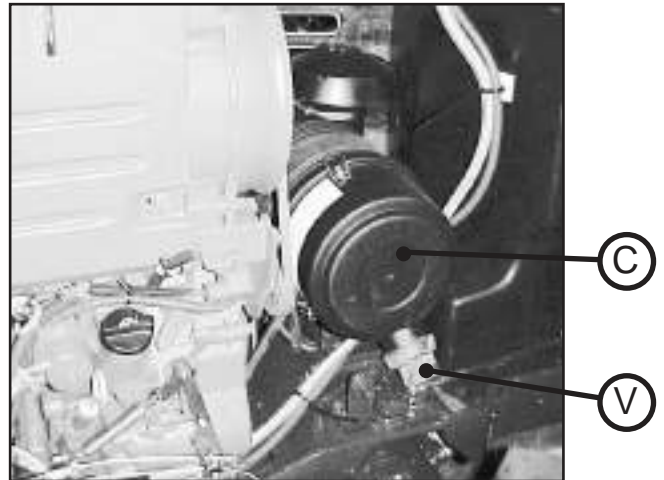

Fig.38
Daily, tap lightly on the cover of the air filter (C, Fig. 38) to remove the dust from inside. Tighten the drainage valve (V) to remove the dust from inside. Clean the valve.